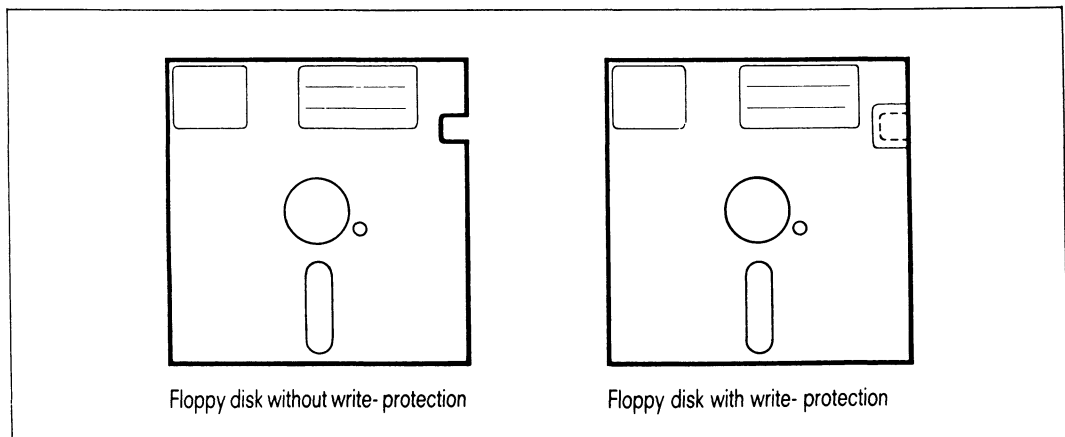

Fig. 19: Physical write protection for 5 1/4" floppy disks
- Protect 5 1/4" floppy disks against inadvertent erasure or overwriting as follows (see Fig. 19):